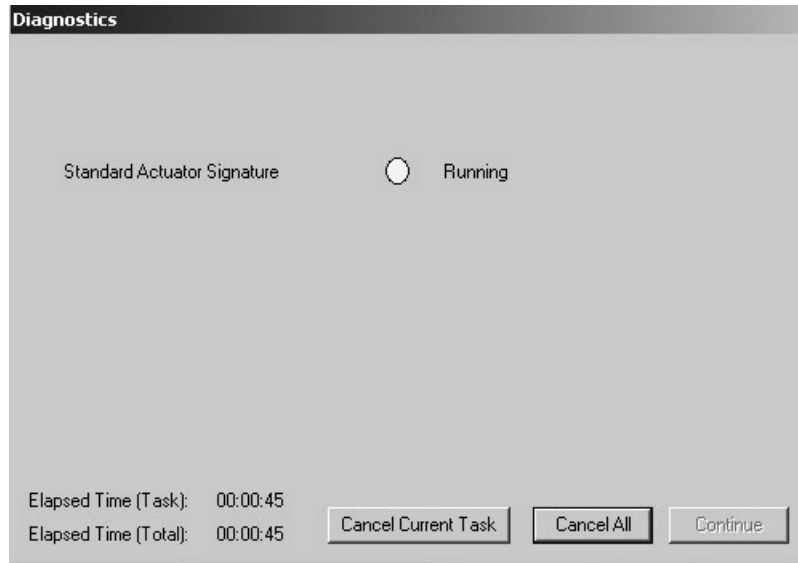

Figure 115 Standard Actuator Signature Test Progress
- 4. During the *Standard Actuator Signature* test, a dialog Figure 115 appears indicating running time.